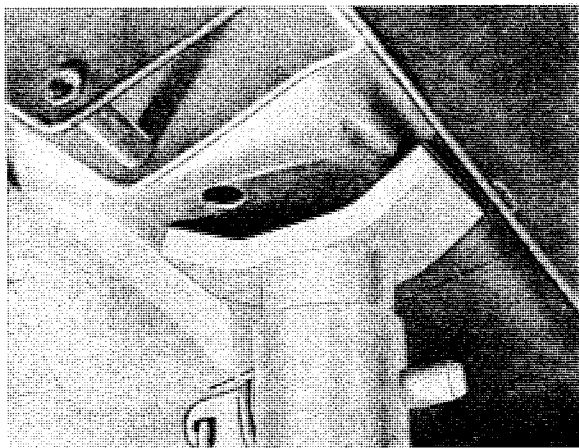

Fig. 4-140. Locating rear axle stand
1. Remove the rear wheel nuts. Place stands under the front end. Place fixture 2714 on a jack and lift the rear axle. See also Fig. 4-161. Place stands in front of the rear jack attachments, see Fig. 4-140, and then lower the jack slightly. Note that the stands must not be placed at a point further than the dash line indicated in the Figure. Remove the rear wheels.